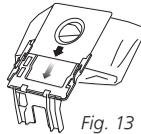

Fig. 13
- 6 Replace the dust bag by sliding it into the holder all the way with the opening on top and the arrow pointing in the direction that it is sliding. (Fig. 13) Make sure that the dust bag is inserted fully into the slot of the dust bag holder.